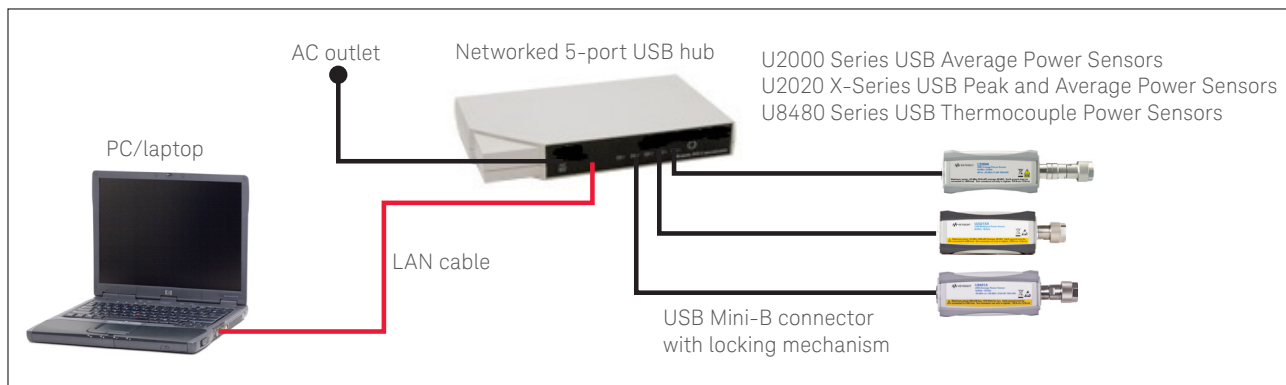

Figure 7. Keysight USB power sensors and networked 5-port hub setup diagram
2. Connect the USB power sensors and networked 5-port USB hub via USB cable as shown in Figure 7.